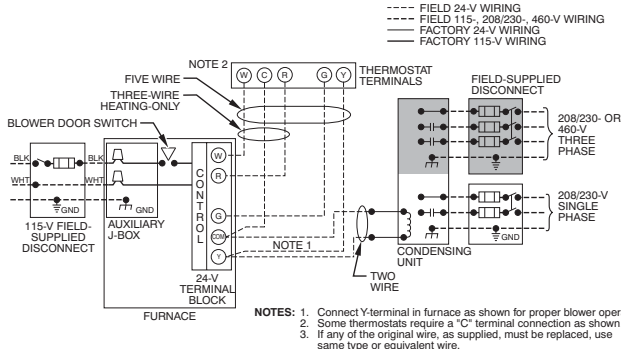

Fig. 33 – Typical Single-Stage Wiring Diagram
See Fig. 33 for field wiring diagram showing typical field 115-V wiring. Check all factory and field electrical connections for tightness. Field-supplied wiring shall conform with the limitations of 63°F (33°C) rise.
6. Connect power cord power and neutral leads to furnace power leads as shown in Fig. 33.
5. Connect field power and neutral leads to furnace power leads. as shown in Fig. 33.
Make field 24-V connections at the 24-V terminal strip. See Fig. 38. Connect terminal Y as shown in Fig. 33 for proper cooling operation. Use only AWG No. 18, color-coded, copper thermostat wire.